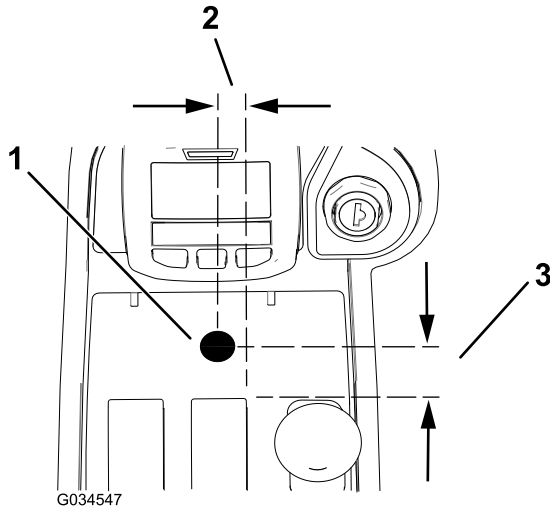

Figure 15
1. Drill a 13 mm (1/2 inch) hole in the center console; refer to Figure 15 for the appropriate orientation.